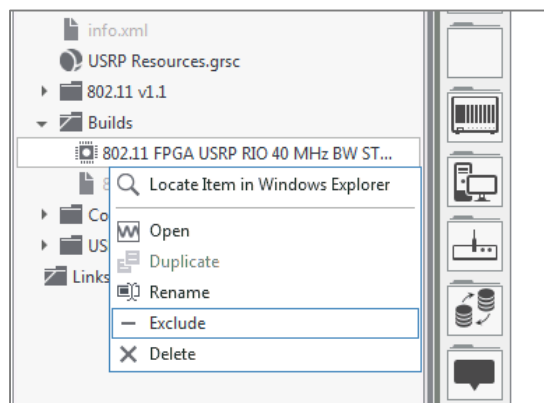

Figure 73: Exclude File
8. **(Recommended)** Once the bitfile is finished building, exclude it from the project as shown in Figure 73 and include it again. This will ensure that the latest changes are actually applied.